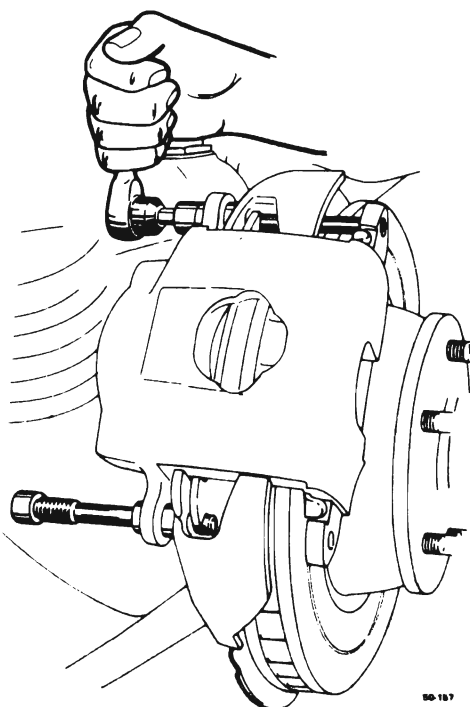

Figure 50-33--Removing Mounting Bolts
3. It is not necessary to disconnect the brake hose for shoe and lining replacement. Remove the two mounting bolts which attach the caliper to the support bracket. See Figure 50-33. Lift the caliper off the rotor and remove the inboard shoe. Dislodge the outboard shoe and position the caliper on the front suspension arm so that the brake hose will not support the weight of the caliper. Remove the shoe support spring from the cavity in the piston.